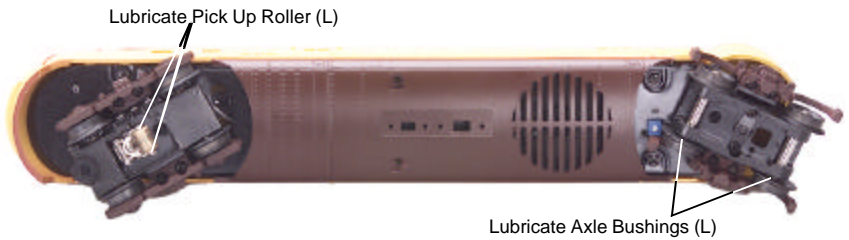
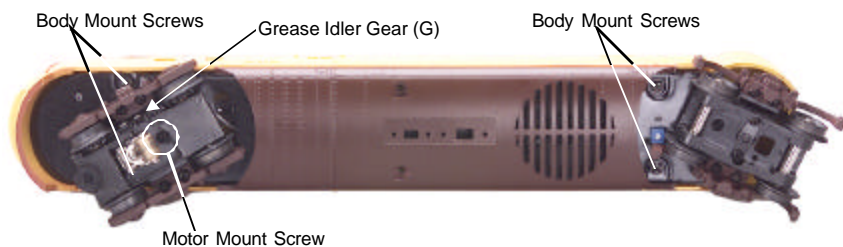

Figure 3. Lubrication Points on the Engine
Figure 4. Body Mount Screws and Greasing Points.
Although the engine was lubricated at the factory, it is important that you lubricate the chassis before operation. Lightly grease the outside idler and drive gears (marked “G” in Fig. 4 on page 11) to prevent them from squeaking. Use light household oil and follow the lubrication points marked “L” in Fig. 3 on page 10. Do not over-oil. Use only a drop or two on each pivot point.
You should regularly oil the engine and pickup rollers to prevent them from squeaking. Use light household oil and follow the lubrication points marked “L” in Fig. 3. Do not over oil. Use only a drop or two on each pivot point.
1. Remove the six Phillips screws from the chassis, as seen in Figure 4, then lift the body away from the chassis.
2. Remove the truck blocks from the chassis by unscrewing the large Phillips motor mount screw on the bottom of each truck block, as shown in Figure 4.
It is also a good idea to lubricate the outside truck block idler and drive gears with grease occasionally. Add grease to the points marked with “G” in Figure 4.